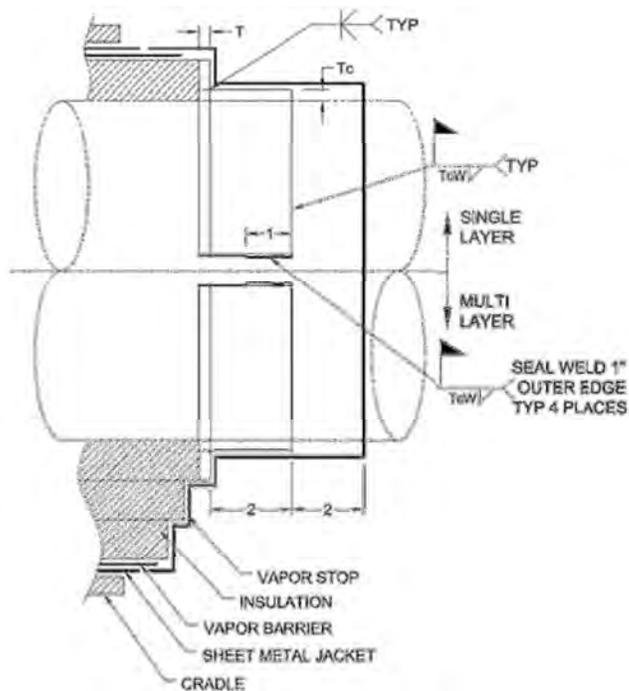

Figure 3 Axial Pipe Lug and Vapor Stop Detail (ANCHORS ONLY)
14. Once support is correctly installed, immediately apply Foster 90-61 vapor stop sealant on the exposed ends of the shoe to avoid any moisture into the HD PUF and other layers of the shoe. Follow application procedure shown on Foster 90-61 data sheet. Extent of the vapor stop sealant is shown on the cryogenic insulation specification (179812-0809-000-SP-2220-005.0001). Refer to Figure 3 for the vapor stop seal of anchor supports.